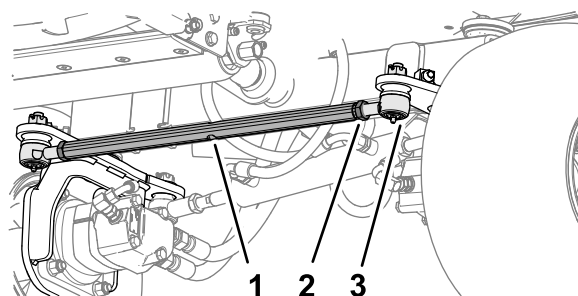

Figure 75
1. At the front of the rear wheel, loosen the 2 jam nuts securing the track rod assembly to the rod ends (Figure 75).
2. Align the wheels by rotating the track rod (Figure 75).
5. Tighten the 2 jam nuts to secure the track rod assembly and the rod ends (Figure 75).